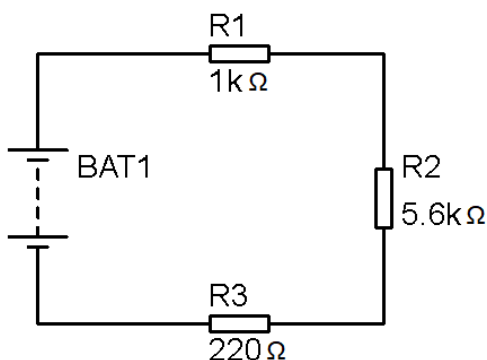

Figure 4 – Circuit 1
- a) Find the total resistance of the circuit shown in figure 4 below. Show all your working.